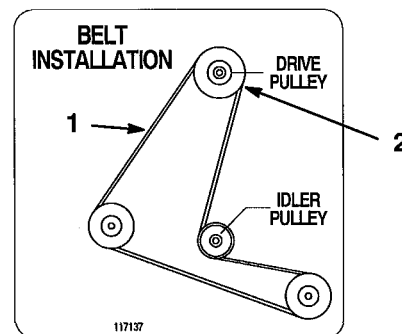

Figure 8
9. Pull on idler pulley to relax belt tension and install mower drive belt in the upper, or single engine drive pulley groove (Fig. 8).